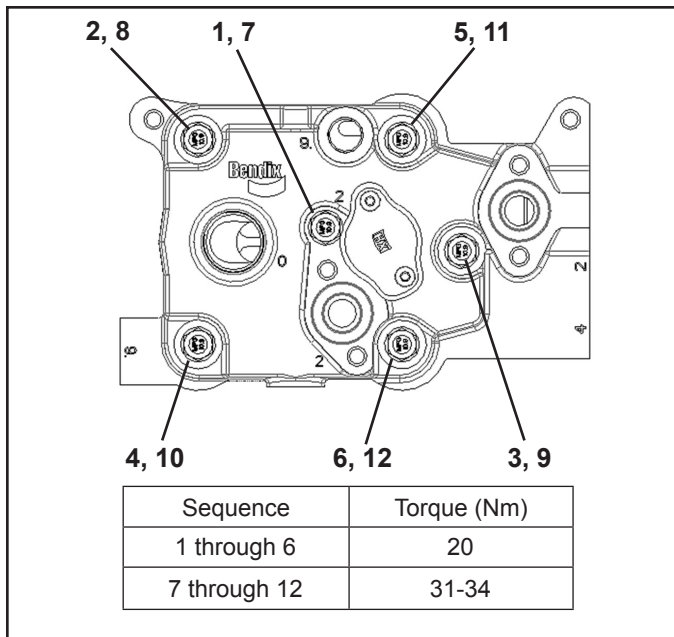

FIGURE 11 - COMPRESSOR HEAD BOLT TORQUE SEQUENCE
6. Install the six head bolts with washers (1) and snug them (finger tight), then torque the bolts in the sequence specified in Figure 11.